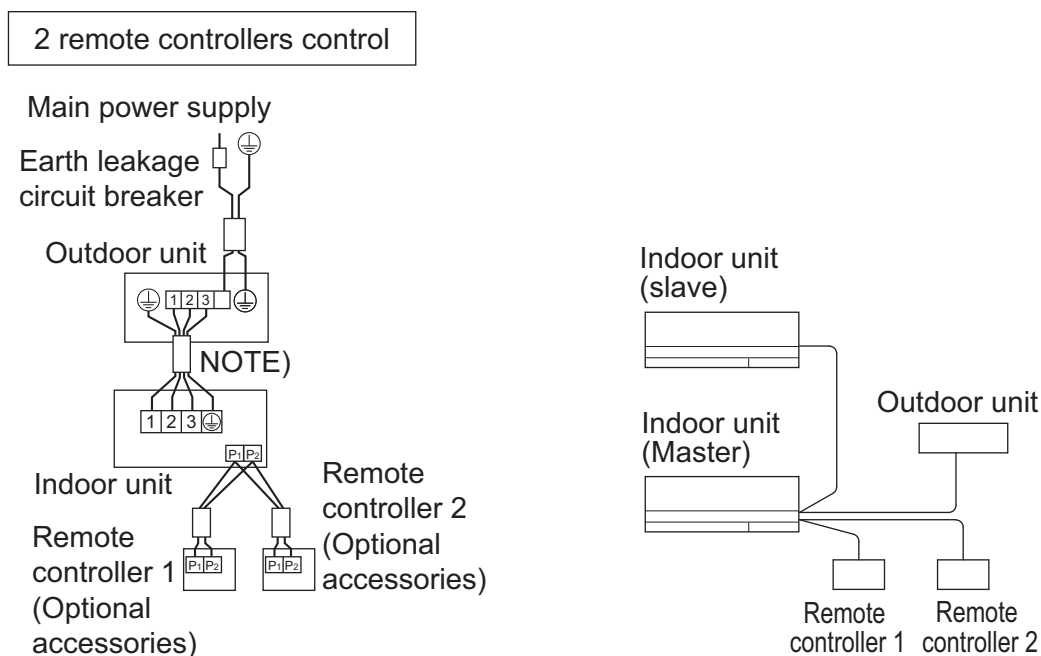

Fig. 28
- **2 remote controllers control:** 2 remote controllers control 1 indoor unit. (Refer to Fig. 28)